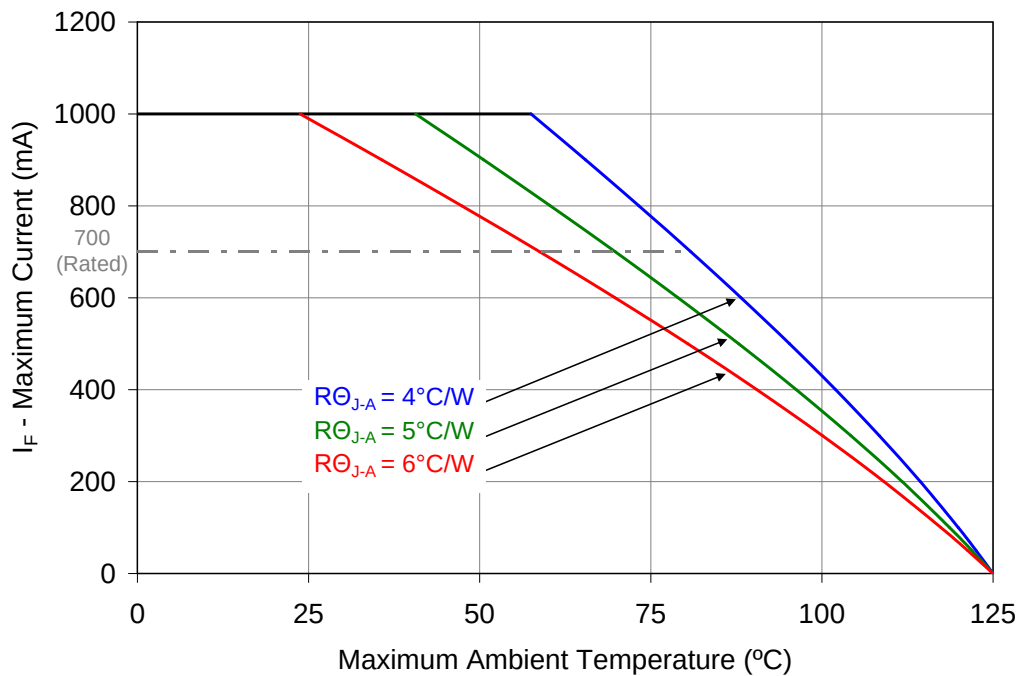

Figure 10: Maximum forward current vs. ambient temperature based on $T_{J(MAX)} = 125^\circ C$.
- Maximum DC forward current is determined by the overall thermal resistance and ambient temperature. Follow the curves in Figure 10 for current derating.
Notes for Figure 10: